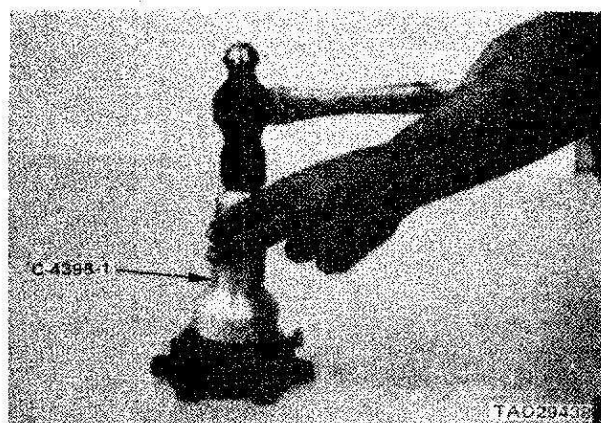

Figure 2-62.6. Installing the Seal in the Retainer.
(7) Using tool C-4398-1, install the seal in the retainer (figure 2-62.6).